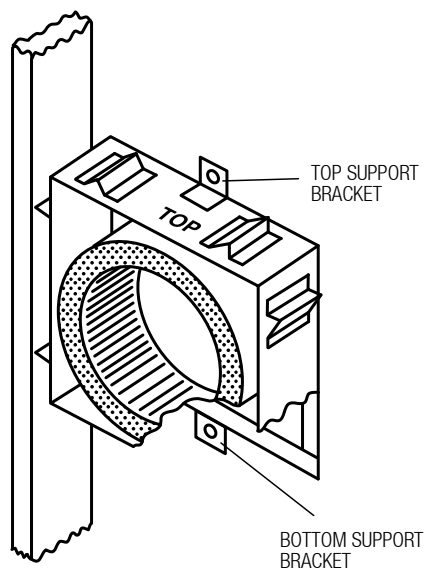

FIG. 2
5. Using the back plate and insulated thimble assembly as a template position and mark off the hole locations where the two support brackets on the back plate are located. See Fig. 2.